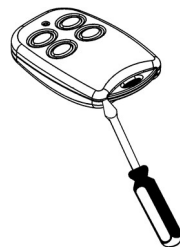

Figure B.12: Opening the EL-2614's Casing
1. Insert a small screwdriver into the pry-off slot – see *Figure B.12* Carefully twist the screwdriver to separate the front and back of the casing.